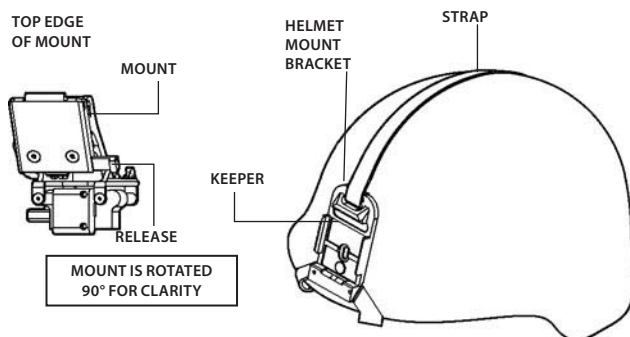
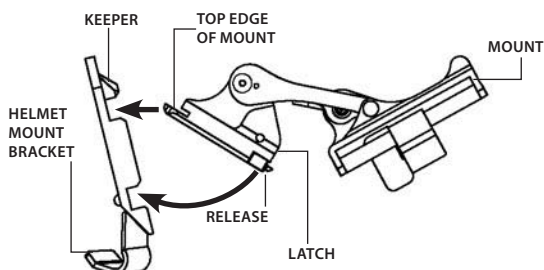

Figure 3-12. Helmet Mount
Figure 3-13. Reassembly of Helmet Mount
(2) Press the release (Figure 3-12) to remove the mount from the helmet mount bracket.
(3) Verify that the strap is laced onto the helmet mount bracket, as shown in Figure 3-12.
(4) With the catch pushed forward (see Figure 3-12), place the strap over the top of the helmet center (see Figure 3-13).
(5) Hook the rear bracket (see Figure 3-12) on the center of the back of the helmet. Lay the strap, now hooked to the helmet mount bracket, over the top of the helmet.
(6) Hook the helmet mount bracket to the center of the front lip of the helmet and hold it in place (see Figure 3-13).
(7) With the buckle lever open, use the catch to remove the slack in the strap. Close the buckle lever.
(8) Disengage the neck strap latch on the left side of neck strap.
(9) Put the helmet on. Do not fasten the helmet chinstrap.
(10) Hold the neck strap where the strap meets the latch. Tighten the strap until it fits securely, then install and tighten the helmet chinstrap. The brow of the helmet should be parallel to the ground, and
(11) Insert the top edge of the mount under the keeper on the helmet mount bracket and rotate it downward until the latch engages (see Figure 3-13). To release the mount from the helmet bracket, press the release and pull it forward and down.